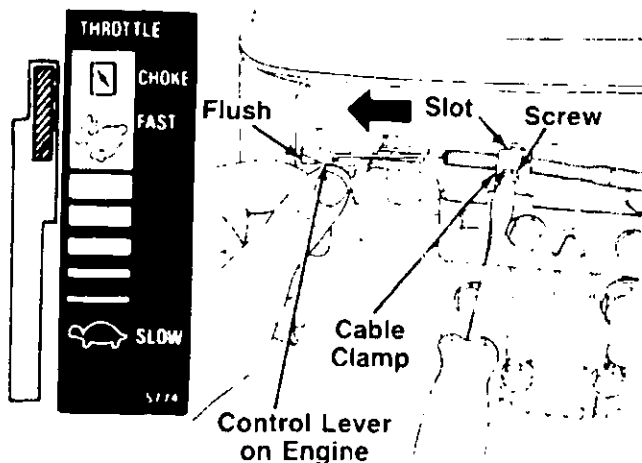

FIGURE 6.
1. Push the throttle control lever on the handle all the way forward to CHOKE position. See figure 6.
2. The throttle control cable is attached to the upper handle. Route the throttle control cable under the lower handle. Route the cable to the **outside** of the handle wheel bracket assembly and height adjustment lever. Hook the "Z" end of the throttle control cable into the hole in the control lever on the engine. See figure 6.
3. Using a 5/16" wrench or nutdriver, remove the screw on the cable clamp shown in figure 6. Slip the control cable under the clamp. Replace the screw (cable should be above the screw), but do not tighten screw (cable must still move freely beneath the clamp). Make certain the tab on the cable clamp is seated into the slot on the engine.
4. Push the control lever on the engine as far toward the **outside** of the engine as it will go. The edge of the control lever should be flush with the bracket on the engine. See figure 6. Hold the control lever in this position as you tighten the screw on the cable clamp to secure the throttle cable.